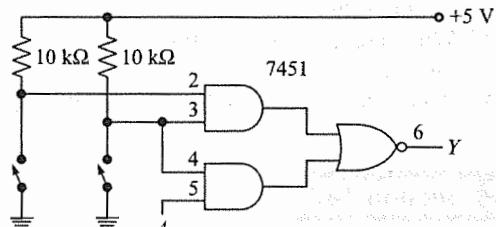

Fig. 14.50
- 14.20 Is the output  $Y$  of Fig. 14.50 low or high for these conditions?